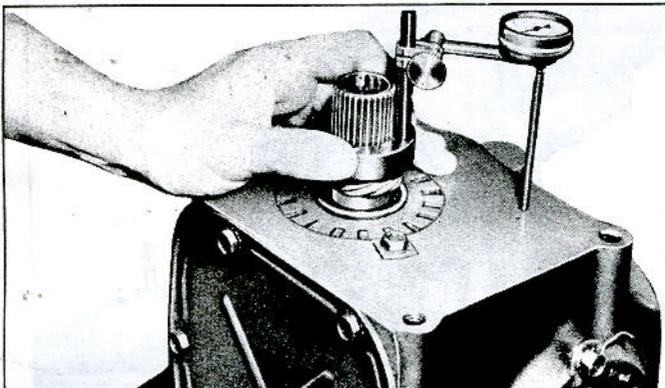

Fig. 9—Mounting Difference with J-8364 and Dial Indicator
- d. Place J-8364 and dial indicator on governor gear on the differential carrier pinion shaft as illustrated (fig. 9) and lower support slowly so that revolutions of indicator needle can be counted. Measurement starts once the indicator needle again reaches zero. Fully depress support on governor gear, note indicator reading and refer to the following chart for spacers to be installed on governor gear.